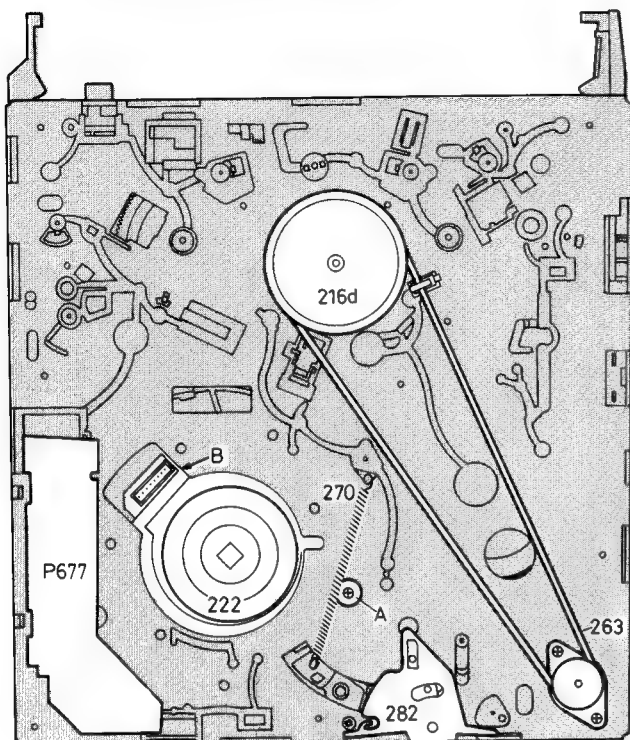

Fig. 1-7
- From the lower side through chassis plate and threading-in ring (Fig. 1-7) screw through hole A can be removed and the head replaced.
- The 2 screws can be turned out of the top plate via the holes in the chassis (Fig. 1-7).
- Disconnect plug (underside) pos. B (Fig. 1-7).